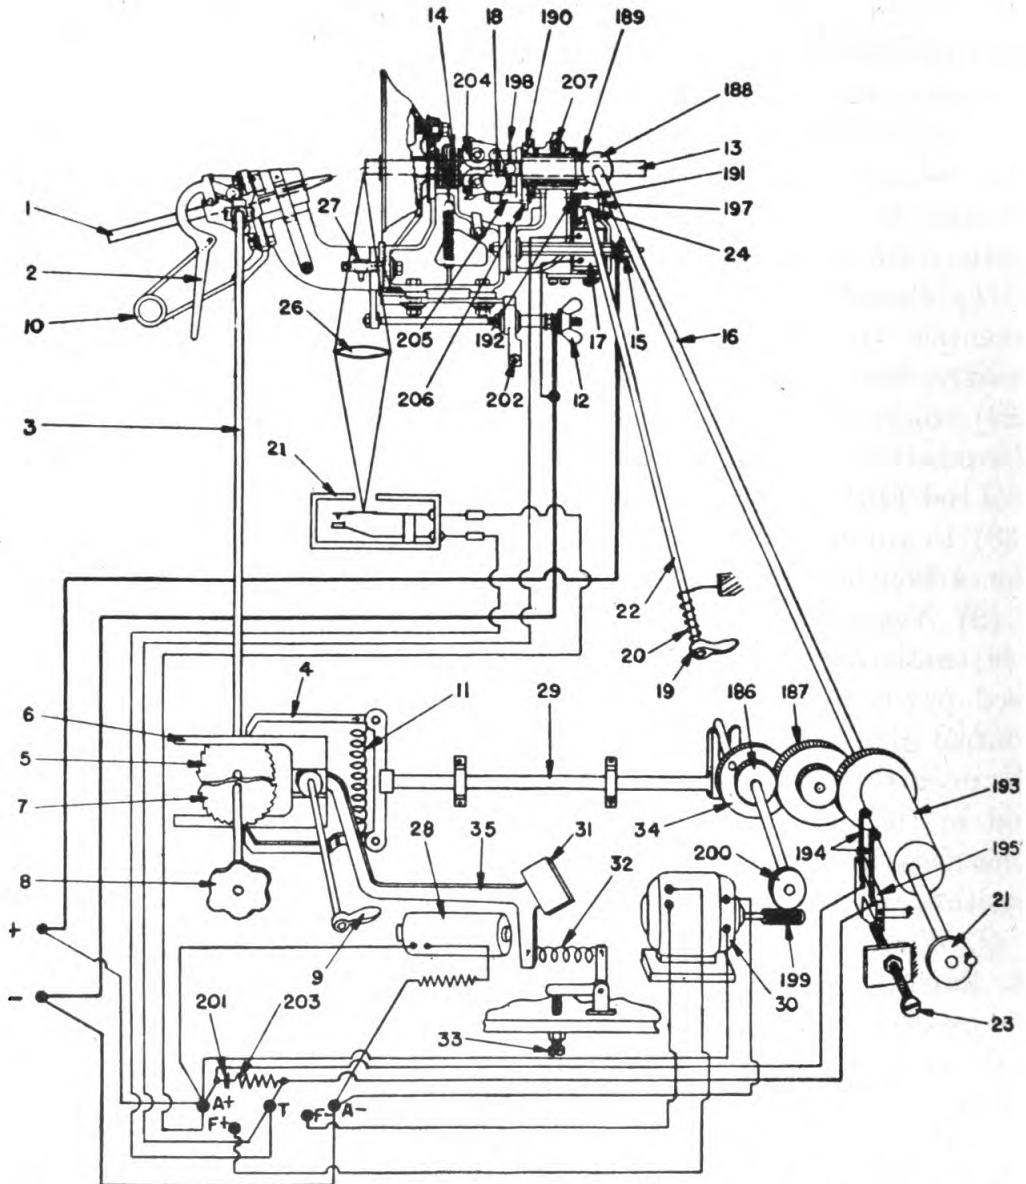
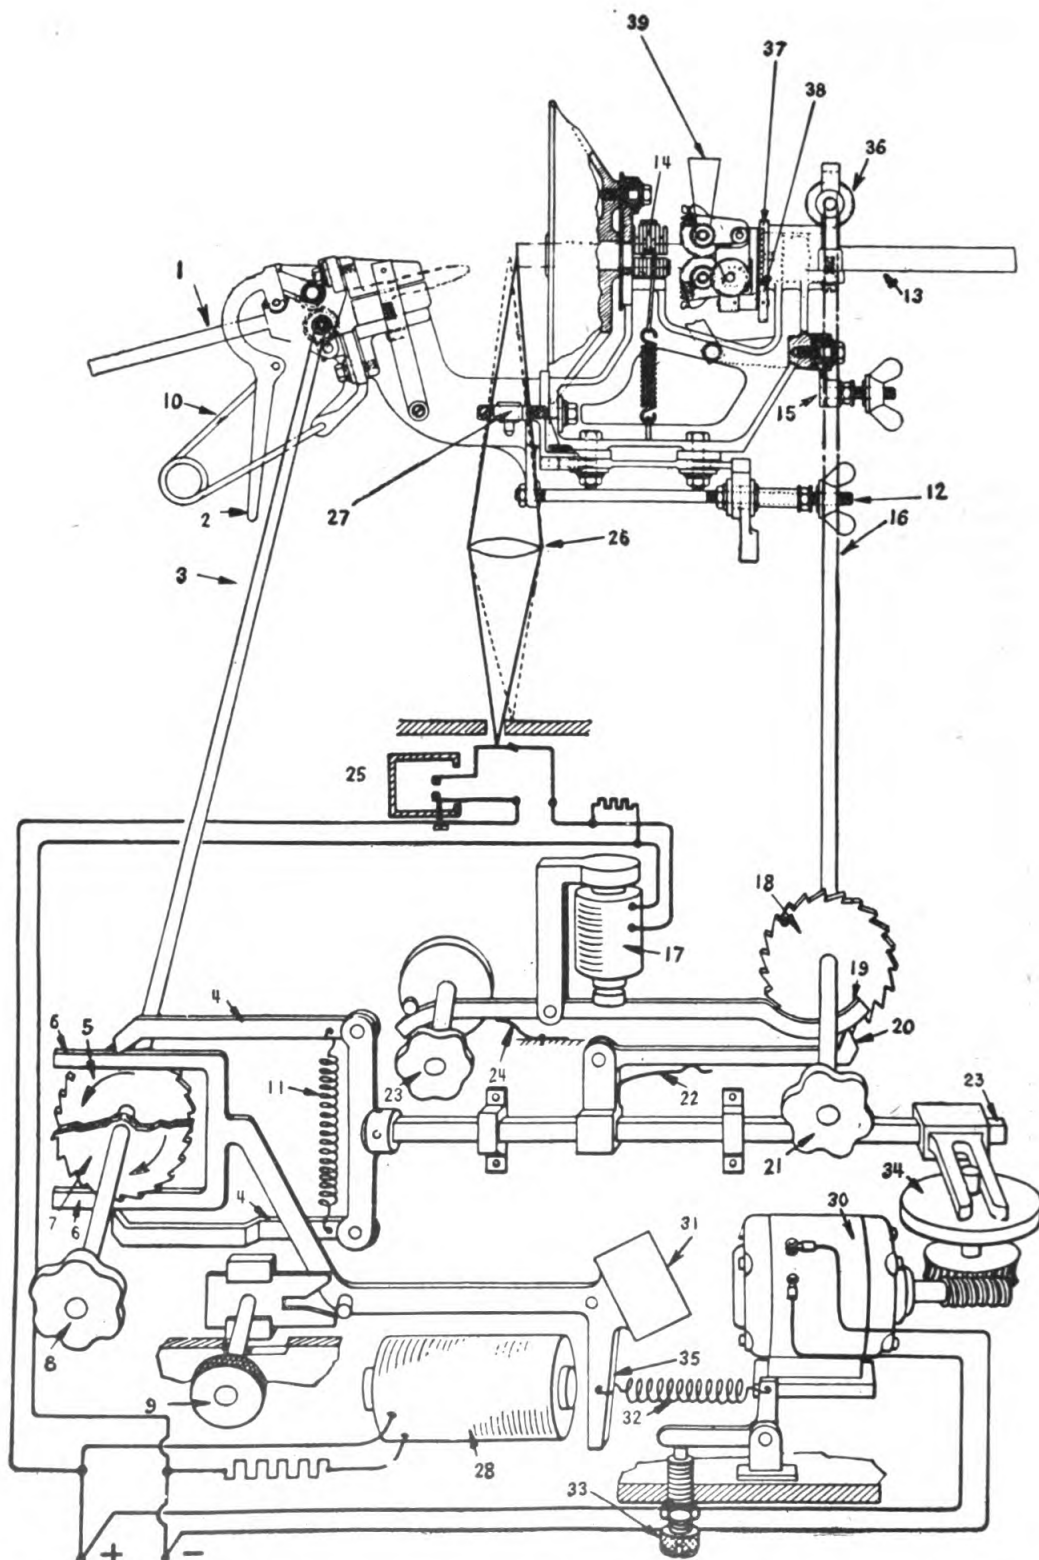

FIGURE 119.—Schematic diagram of Sperry M1941 lamp and lamp control mechanism.
FIGURE 120.—Schematic diagram of Sperry M1940 lamp and lamp control mechanism.
(1) Remove the thermostat from the searchlight drum and place it on a suitable flat surface, preferably a workbench.
(2) Remove the four cover screws and cover.
(3) Unscrew the contact assembly holding screws and remove the contact assembly.
(4) Clean the points with crocus paper, being careful not to bend the contact arms and to avoid excessive rubbing with the abrasive.
(5) When finished cleaning, draw a piece of white paper between the contacts to wipe off any abrasive that may be left on the points.
(6) Reassemble the thermostat and replace it in its position in the drum.
b. Sperry searchlight, M1941.—Q. Describe briefly the operation of the lamp control mechanism. *A.* The lamp control mechanism and lamp are shown in schematic form in figure 119.
(1) *Positive carbon feed system.*—The feed motor (30) drives, through a set of gears, the positive rod (16), which drives miter gear (188) and a driven miter gear. Miter gear (189) drives a yoke carrying with it a set of gears. This set of gears includes a ratchet and gear assembly (190) which, when prevented from rotating by a feed plunger (191), causes a planetary gear (206) to rotate, which in turn causes the feed rollers to rotate, thus feeding the positive carbon forward.
(2) *Negative carbon feed system.*—The negative carbon feed system operates as follows: The feed motor (30) drives through eccentric gear (186), which in turn causes the reciprocating feed member (29) and the feed pawls (4) to oscillate back and forth. One of the feed pawls (4) (depending upon the position of the negative feed con-
Q. What operates the positive feed plunger (191), figure 119?
A. An electromagnet which may be energized from two sources: a cam operated switch (195) or thermostat (25).
c. Sperry searchlight, M1940 (M1934, M1937, M1939, and M-VI are similar).—Q. Describe briefly the operation of the lamp control mechanism. *A.* The control mechanism and lamp are shown in schematic form in figure 120.
(1) *Positive carbon feed system.*—The feed motor (30) drives an eccentric disk (34) causing the reciprocating feed member (29) and positive feed pawl (20) to move back and forth. Positive feed pawl (20) engages the teeth on positive feed ratchet (18), rotating it and the positive control rod (16) in a counterclockwise direction. Control rod (16) drives gear (36) causing a yoke carrying planetary gear (38) to rotate. Planetary gear (38), through a worm drive, causes the carbon feed rollers to rotate and feed the positive carbon forward.
(2) *Negative carbon feed system.*—The reciprocating feed member (29) and the feed pawls (4) oscillate back and forth. One of the feed pawls (4) (depending upon the position of the negative feed control guard (6)) drives the negative control rod (3) so as to feed the negative carbon forward. The other pawl (4) drives the control rod in the opposite direction so as to retract the negative carbon. The negative control rod (3) is connected to the feed rollers which position the negative carbon.
Q. What is the function of the positive feed control guard (19)?
A. Raising the positive feed control guard permits more teeth on the positive feed ratchet (18) to be engaged by positive feed pawl (20), thereby increasing the rate of feeding of the positive carbon. The opposite condition occurs when the guard (19) is lowered. The normal position of the positive feed control guard (19) is such as to allow the positive feed pawl (20) to engage only one tooth on the positive feed ratchet (18) for each stroke of the feed pawl.
Q. What actuates the positive feed control guard (19)? *A.* The positive feed control guard can be positioned automatically or manually as follows: